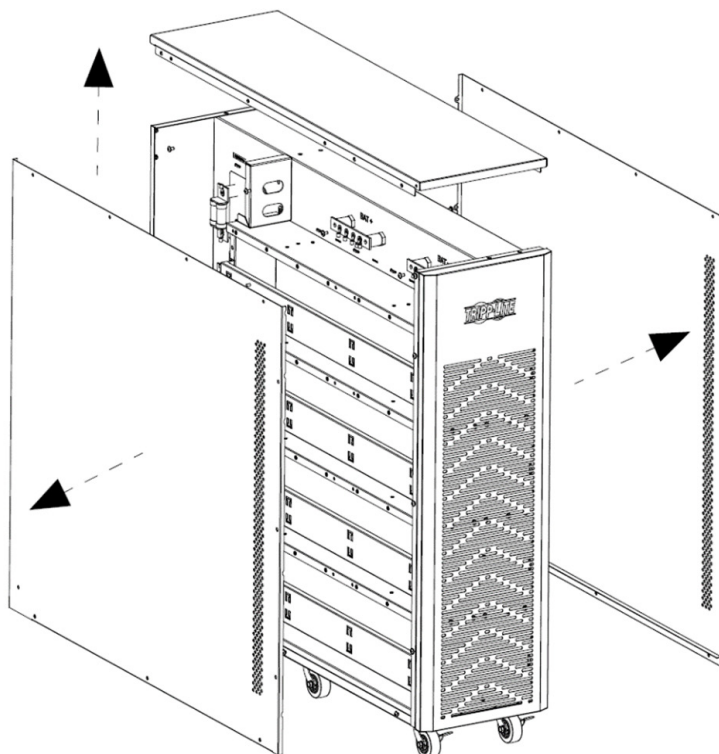

Figure 5-3
2. Remove the top, right side and left side plates (Figure 5-3).